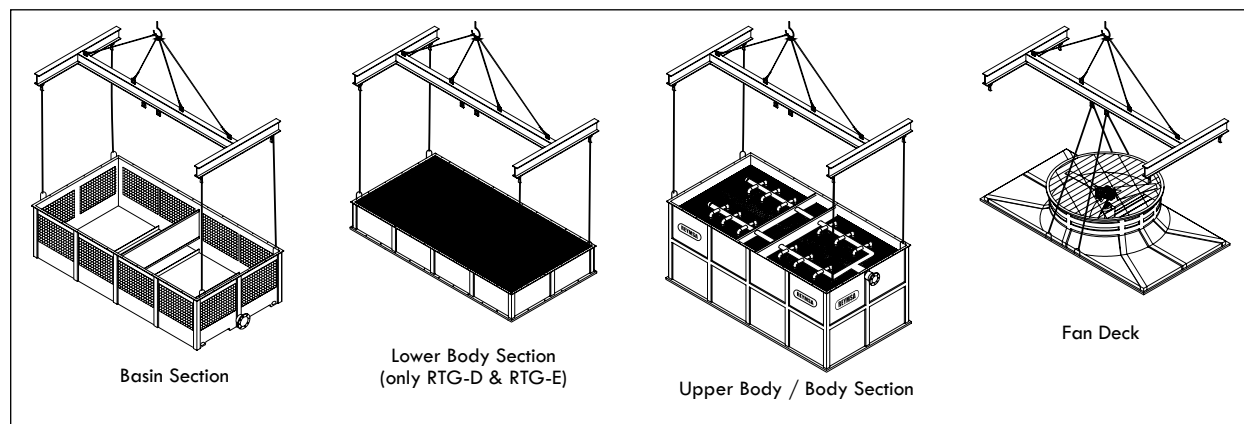

Figure A-46: Crane lifting for an RTG and RTGTC model.
- B. After assuring the equipment is received in proper condition, proceed to unload it from the transportation vehicle, piece by piece, with a crane (using a spreader bar) or forklift of the appropriate capacity, see Figure A-46 for an example. If you unload with a forklift, use fork extensions of the proper pallet length according to the width of your model.
- C. For crane lifting, it's recommended to use a minimum lifting angle of 60° between the strap and the horizontal. Each section of the Tower has U-bolts for lifting. Place the straps through the U-bolts (as shown in Figure A-46) and use a spreader bar to avoid damage on the upper edge of the Tower. Don't balance until tensing the straps.